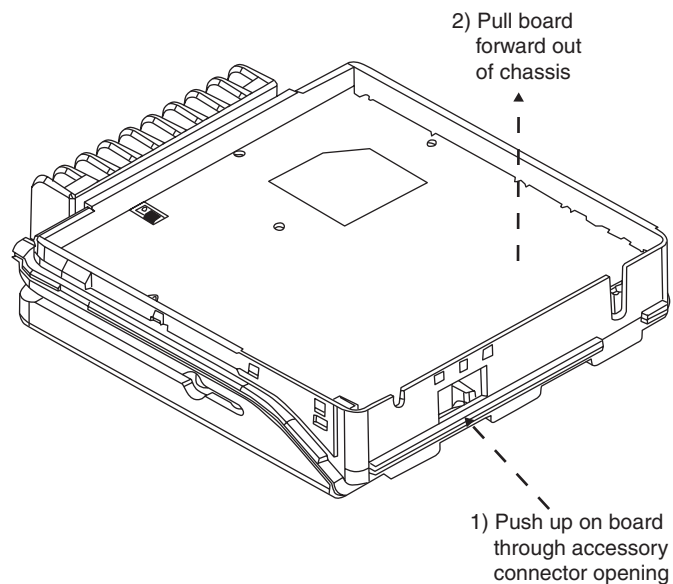

Figure 28. Removing the Interface Board
3. Carefully remove the interface board by rotating it out of the chassis. Slowly lift the board on the front edge while pushing up on the board through the accessory connector opening. Pull the board forward out of the chassis (see Figure 28).